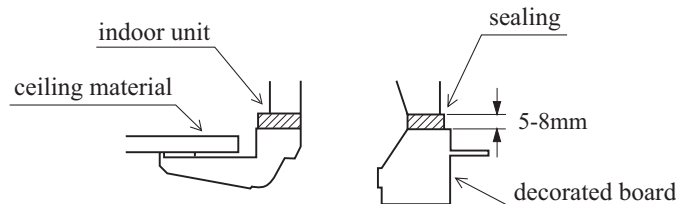

Fig.2
- e. Fasten the screw to keep the thickness of the sealing between the decorated board and the unit body within 5-8mm, as shown in Fig. 2.